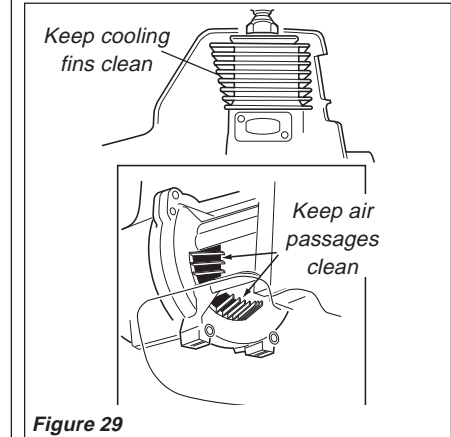

Figure 29
- Remove all dirt and debris from the engine, check the cooling fins and air cleaner for clogging, and clean as necessary. See Figure 29.